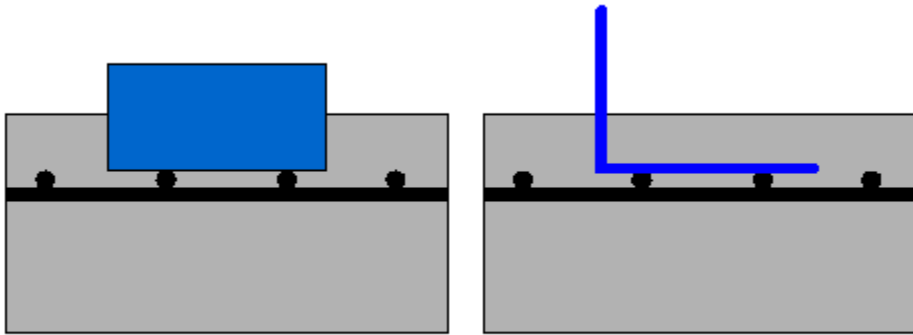

Figure 2—Inserting the Reinforcing Steel Depth Device
- 5.3.1 In a position perpendicular to the deck or slab surface, insert the reinforcing steel depth device into the concrete at a 90° angle to the highest level of reinforcing steel until it touches two adjacent reinforcing bars as shown in Figure 2. Mark the top surface of the concrete on the device.